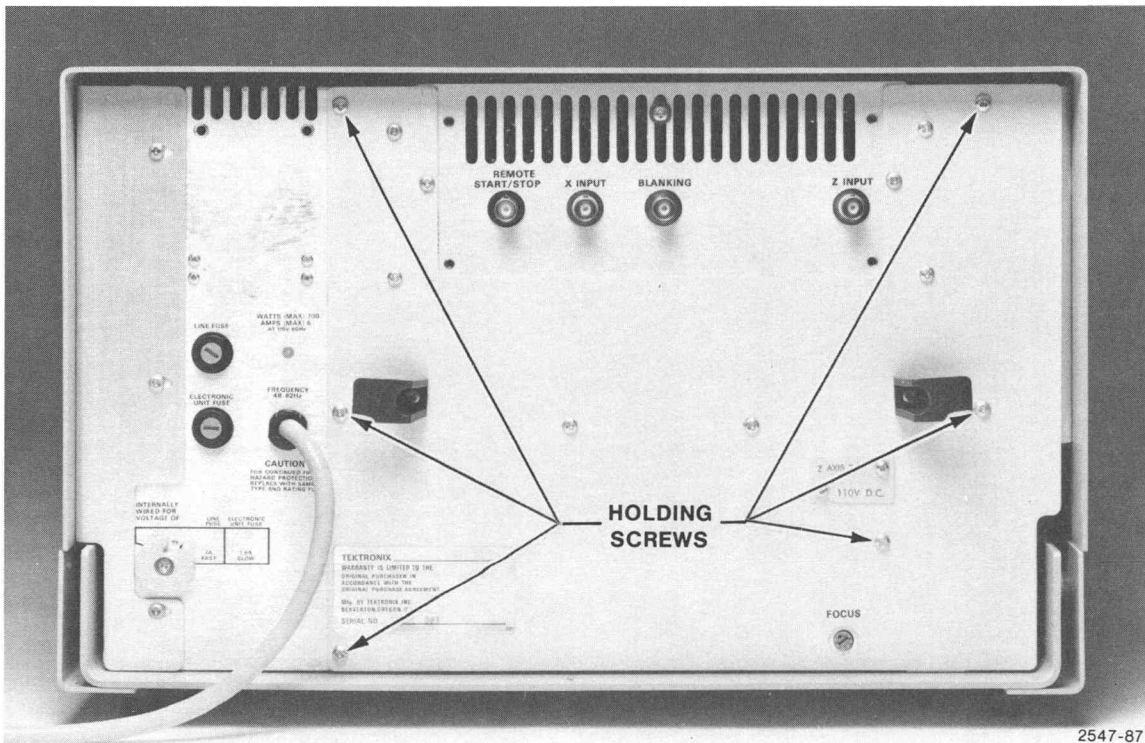

Figure 4-5. Rear Panel Holding Screws.
2. Remove the top cover by removing the four screws on each side of the top cover and lifting the cover off. Use a POZIDRIV screwdriver to remove the six rear panel holding screws (Figure 4-5). It is not necessary to remove the screws holding the connector mounting plate to the rear panel, nor to remove the Video and Sweep board and Timing board from their sockets in the Main board.